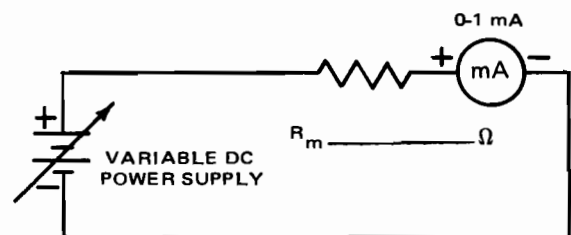

Fig. 8-3-1
5. Construct 10 V meter as in Fig. 8-3-1. Value of R_m is achieved with resistance decade module or a 10 k potentiometer. Measure value of R_m with VOM before assuming that it is correct.